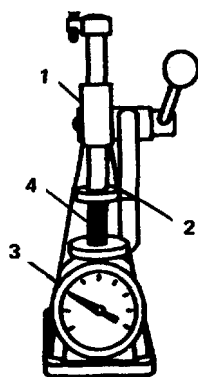

FIGURE 4-5. Spring Tester.
- (7) Use a valve spring tester (1, FIG. 4-5). Measure spring (4) at working height (2) of 1.98 inch (50.3 mm). Verify spring force (3) is between 253 lb (1125 N-m) and 294 lb (1308 N-m).